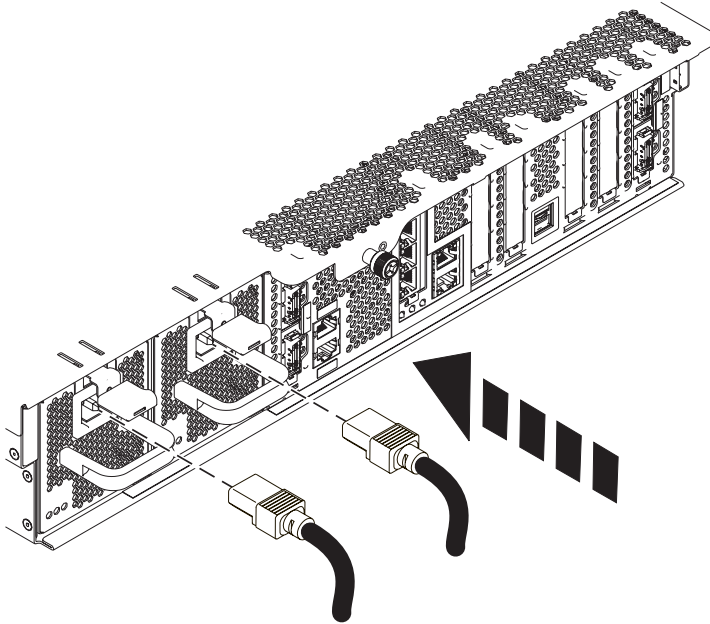

Figure 4. Installing power cords
- b. Connect all power cords to the unit you are servicing. See Figure 4 on page 7.